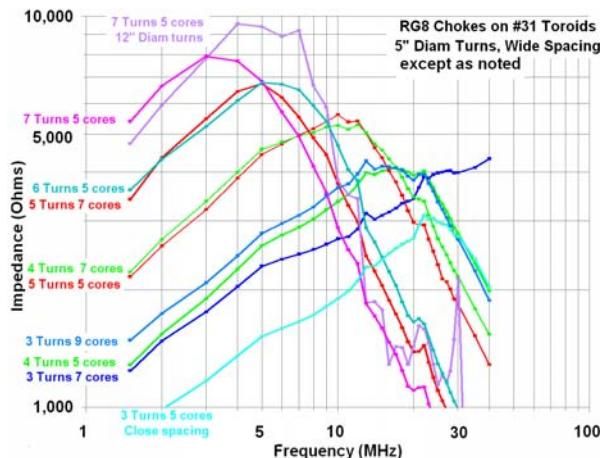
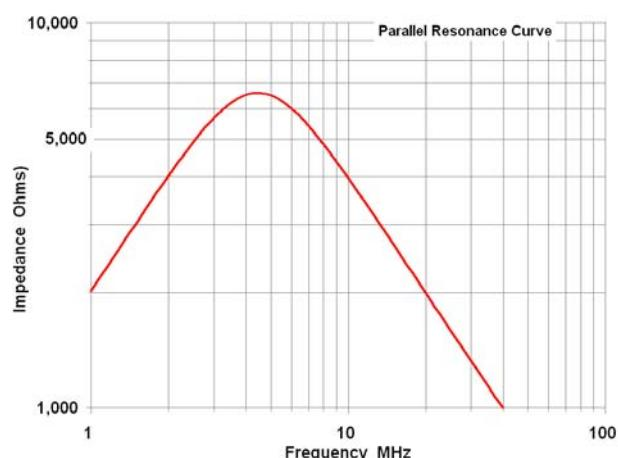
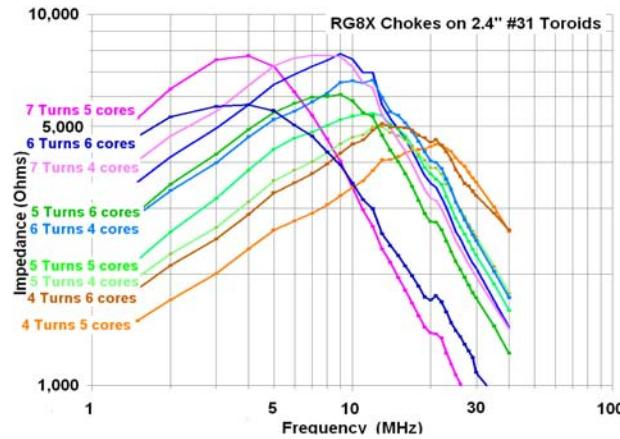
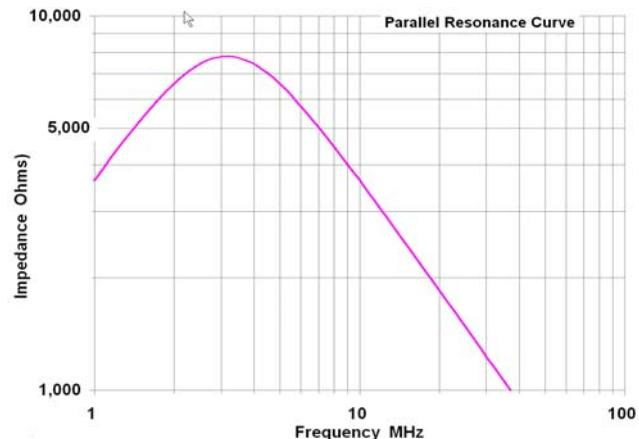

Fig 41 – Measured Impedance of RG8 Chokes wound on stacks of #31 2.4" toroids
Fig 42 – Impedance of a parallel resonant circuit of 320 uh, 4 pF, and 6,600 ohms
Fig 43 – Measured Impedance of RG8X Chokes wound on stacks of #31 2.4" toroids
Fig 44 – Impedance of a parallel resonant circuit of 590 uh, 4.3 pF, and 7,800 ohms
**More Measurements:** Fig 41 displays data obtained in this manner for RG8 chokes wound on stacks of #31 3.4" o.d. cores, in the style of Fig 36. Note that the resonant frequency falls both with more turns and with more cores in the stack. This is to be expected – in addition to the resistive impedance we are looking for, each core also adds inductance and capacitance, both of which lower the resonant frequency. Our goal is 5K ohms over a broad frequency range (at least three ham bands). Fig 40 shows very good options for 1.8-14 MHz, but makes it clear that it isn't easy to get more than about 3K at 30 MHz in a single choke, and it will be difficult to wind a single choke that covers 14-30 MHz (for use on a multiband antenna). Note that the "bubbles" around 20 MHz are measurement errors resulting from artifacts of the active attenuator in my HP 8657A, and not characteristic of the actual choke.
**Curve Fitting to Find R, L, and C values:** Fig 42 is the impedance of a simple parallel resonant circuit consisting of a 320  $\mu$ H inductance, a 4 pF capacitance, and a 6,600 ohm resistance. Fig 42 is simply a plot (using Quattro Pro) of the equation for the impedance of a parallel resonant circuit consisting of those component values. The values were selected so that the curve closely approximates the 5 turn choke wound on 7 cores in the vicinity of resonance – the red curve in Fig 41. This circuit has a Q of 0.73 at resonance. Note that as we move away from resonance by more than about 2 octaves (a 4:1 frequency change), the calculated curve increasingly deviates from the measured data. This should come as no surprise, since the permeability and the permittivity of the ferrite material vary with frequency.
Fig 43 shows data for chokes wound using RG8X, and Fig 44 is a simple parallel resonant circuit that approximates a 7 turn choke wound around 5 cores (the magenta curve in Fig 42). The capacitance value is a bit higher, and the Q is a bit lower. Applying the same techniques to the 4-turn 5-core RG8X choke of Fig 43 (the orange curve) yields circuit values of 56 uh, 1.3pF, 4,400 ohms, and a Q of 0.67.
**Chokes and Modeling** A wire can be added to an NEC model for a dipole (or other antenna) to analyze the contribution of common mode current on the coax shield to antenna performance – simply connect a wire from one side of the feedpoint to ground. Beginning with version 4 of W7EL's excellent EZNEC+, we can add a network, including a parallel RLC network, to any of the wires in the model. Use the values of R, L, and C that are determined empirically (see Figs 41 and 43, and the associated discussion). We might also add a nearby feedline that we suspect might need an "egg insulator" choke, and study the results with and without the choke.